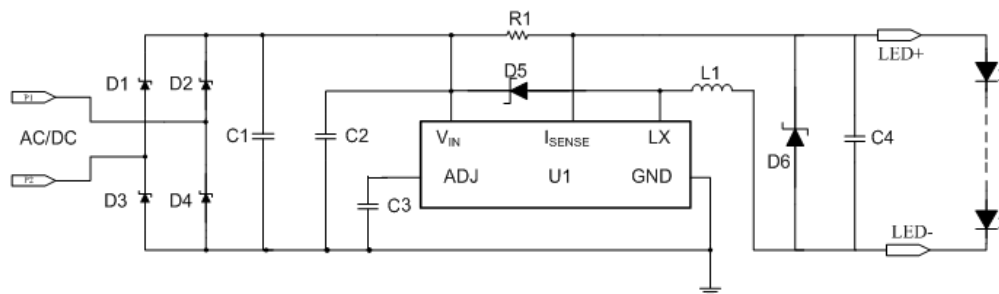

Figure 2: IS31LT3360 Application Schematic. Please refer to the IS31LT3360 datasheet for additional information.
*Table 2: Bill of Materials. Refer to Figure 2 for more information.*